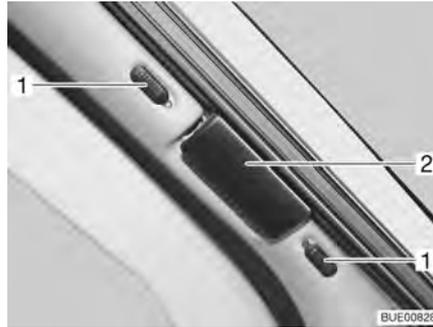

Fig. 20 Roman shade for the windscreen
- Use the handle (Fig. 20,2) to pull the two halves of the Roman shade for the windscreen outwards as far as they will go.
- Push the locking knobs (Fig. 20,1) upward or downward. If the red dot is visible, the lock is open.